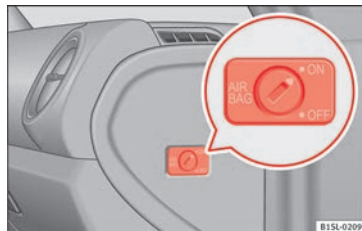

Fig. 75 On front passenger side: Key switch for enabling and disabling the front passenger front airbag.
- Using the vehicle key, turn the key switch to **ON** **Fig. 75**.